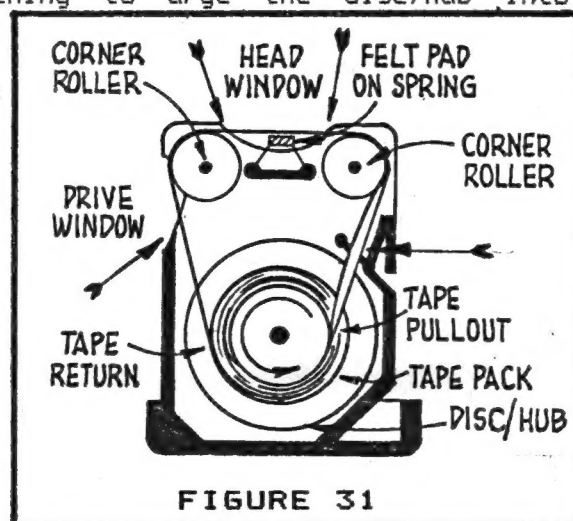

FIGURE 31
Figure 31 shows the innards of a cartridge. A length of twohundred (200) inches of .075" (1.9 mm) wide tape, exactly half the width of cassette tape, .001" thick, is spliced in an endless loop. This loop is loosely wrapped in a pack, around a hub, which is molded onto a flat disc, which could revolve around a spindle and in a recessed circular area. I doubt that this disc/hub would actually rotate during operation. The loose tape pack is nowhere attached to the hub (couldn't be for the kind of operation intended), so there is nothing to urge the disc/hub into rotation.